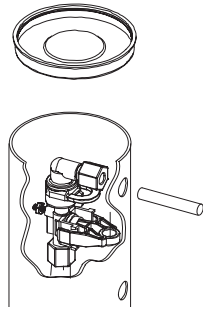

Figure 6
**NOTE:** Once the tubing has been pushed into the nut it cannot be pulled out. The nut will need to be removed. See Figure 6 for correct assembly.